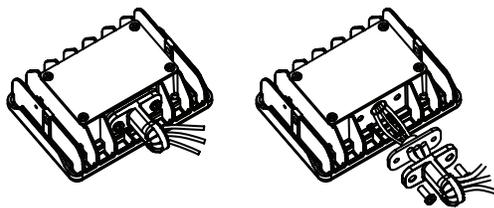

Figure 1.2
2. Match the hole of the rubber mat with the bracket, pass the wires through and fasten with screws (Take care not to damage the wires); (figure 1.2)